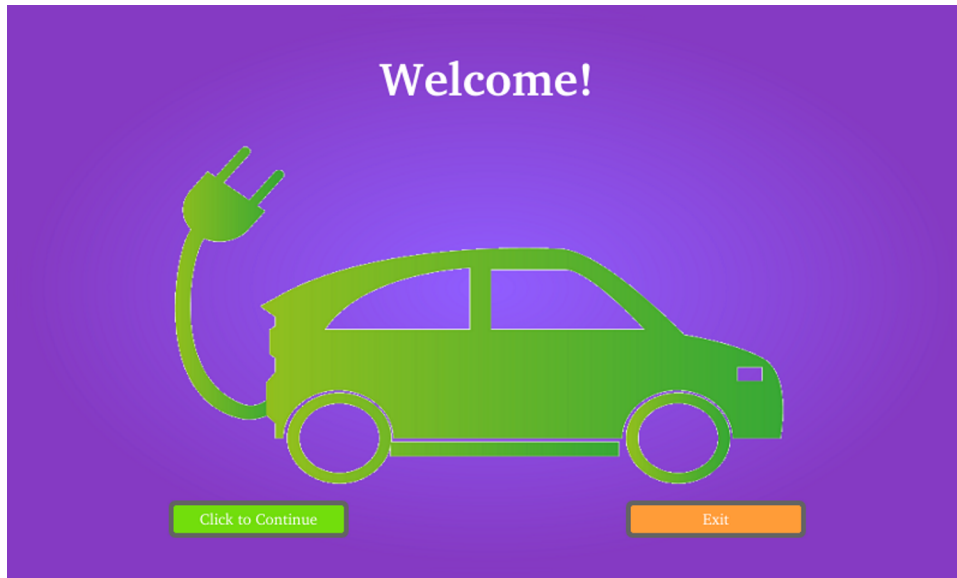
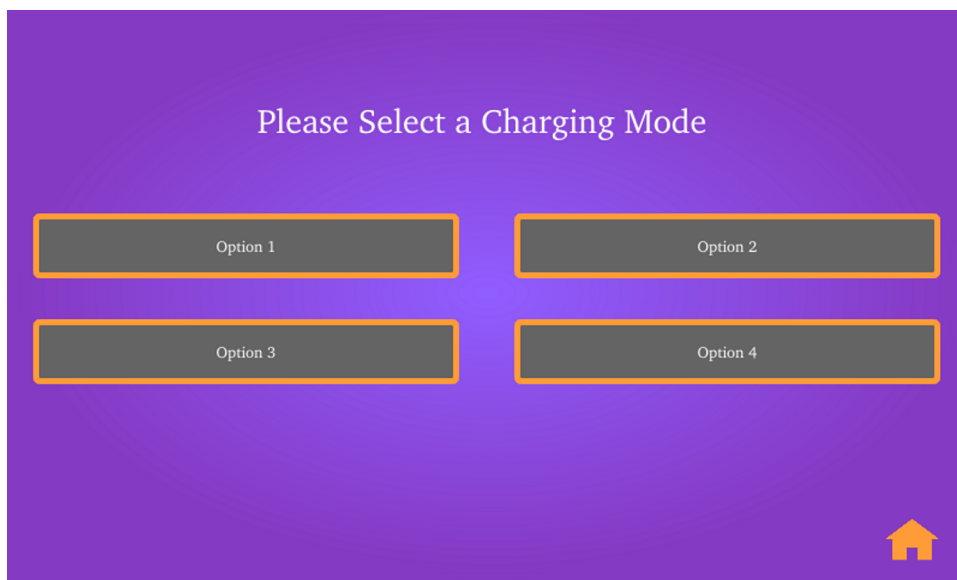

图 9. EVSE HMI Demonstration GUI—Welcome Screen (Page One)
图 10. EVSE HMI Demonstration GUI—Charging Mode Screen (Page Two)
4. The EVSE HMI demonstration GUI launches and the *Welcome* screen shows (see 图 9).
5. The *Click to Continue* button in 图 9 leads to the charging mode screen shown in 图 10.
- The home icon in the bottom-right corner directs the user back to the *Welcome* screen in 图 9.
- The home icon in the bottom-right corner leads to the *Welcome* screen in 图 9.
- The *End Charge* button directs the user back to the *Welcome* screen in 图 9.